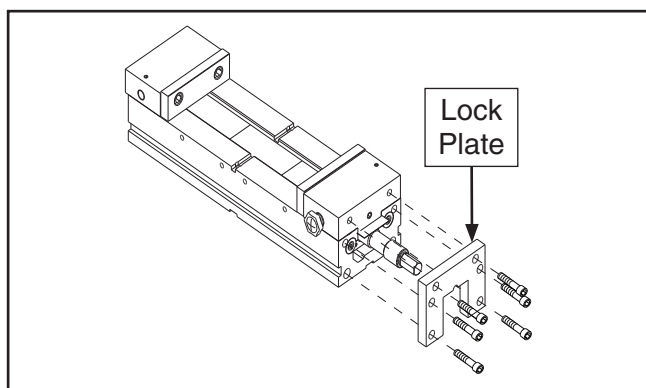

Figure 6. Attaching step-side lock plate.
3. Attach step-side lock plate to step-side and vise body using (6) $\frac{3}{8}$ "-16 x $1\frac{1}{2}$ " cap screws that came with vise (see **Figure 6**).